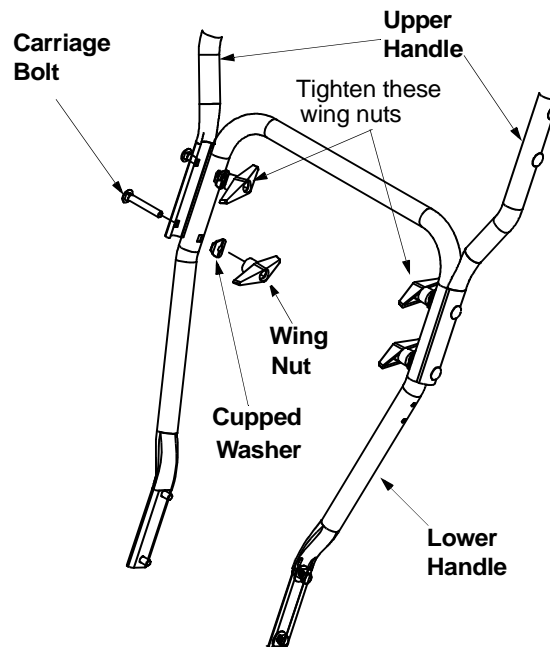

Figure 3
- Secure the upper handle and lower handle with the two plastic wing nuts, cupped washers and carriage bolts previously removed. Attach these hardware on the lower hole in the handles. See Figure 3.
- Tighten the two wing nuts already in place on the upper holes and secure the handles firmly. See Figure 3.